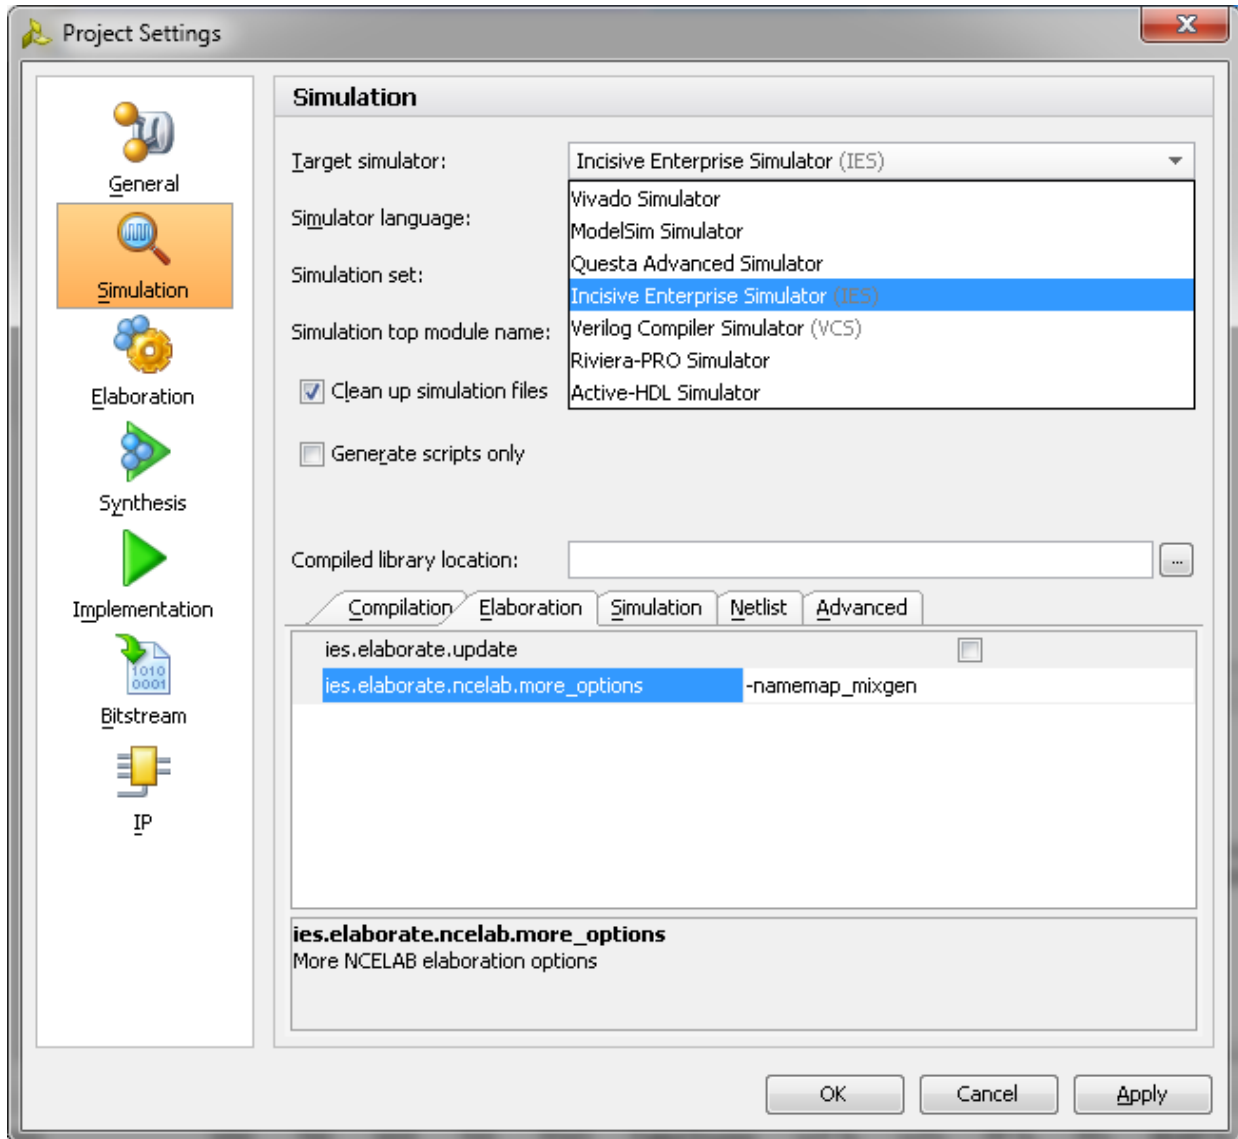

Figure 3-68: Simulation with IES
- d. Under the **Simulation** tab, set the `ies.simulate.runtime` to 1 ms (there are simulation RTL directives which stop the simulation after certain period of time which is less than 1 ms) as shown in Figure 3-68.